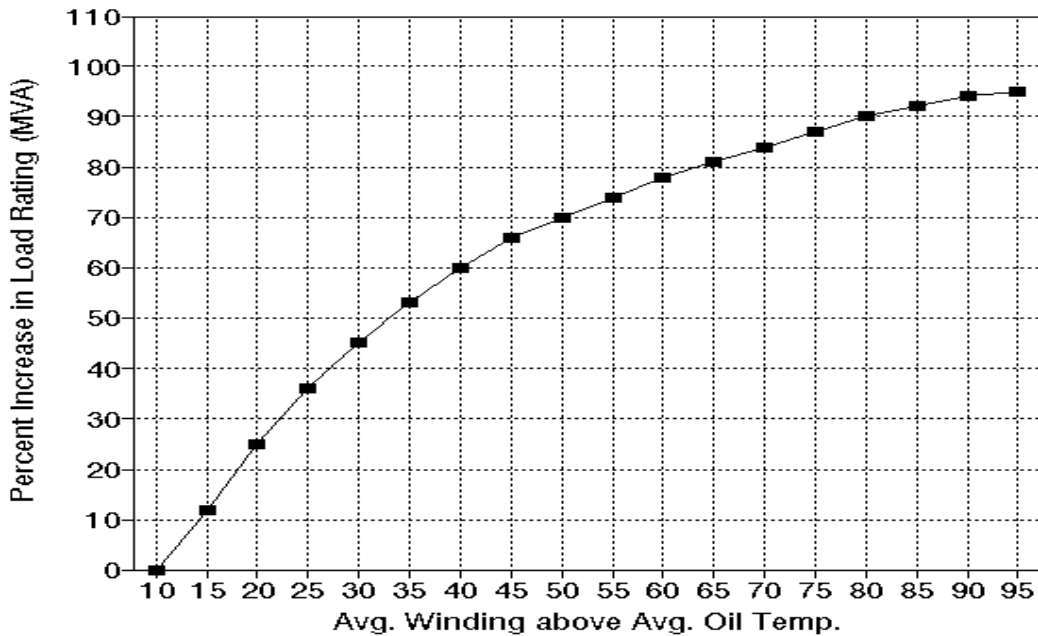

Figure 1
3. The effect of raising the power load on the transformer Transformers will run warmer due to increased power load. The chart shown as Figure 1 indicates that the temperature rise resulting from an increase in power rating of 50% would be approximately 35°C.